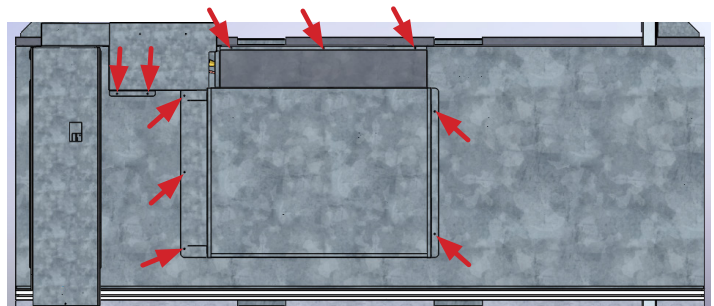
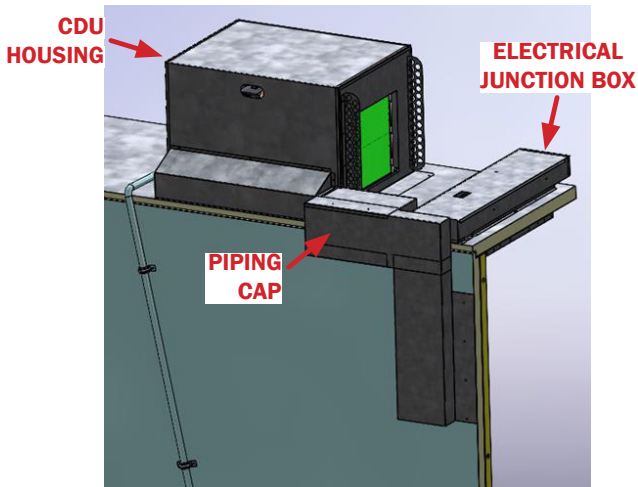

Fig. 63 Location of piping cap fasteners and CDU housing screws (3-5 door cases)
Fig. 64 Rear view of final install (high charge cases)
8. With piping connections reconnected and the electrical junction box installed, the condensing unit cover and piping cover can be placed back onto the high charge cases using the screws retained from "DOORWAY PREP" steps 1 and 2 (Fig. 63). Review those steps to ensure covers are fastened properly to complete installation (Fig. 64).